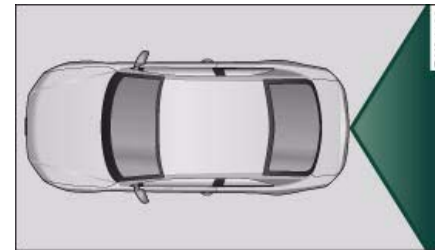
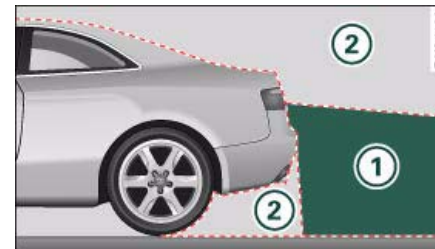

Fig. 147 Viewed from above: Area covered by the reversing camera
Fig. 148 Side view: ①: Area covered by the reversing camera; ②: area NOT covered by the reversing camera
The section of the "Rear View" image shown in the MMI display is roughly the same as the area covered by the camera as shown in ⇒ fig. 147 or ① in ⇒ fig. 148. Objects which are in area ② ⇒ fig. 148 of the reversing camera or in close proximity to the bumper cannot be identified.